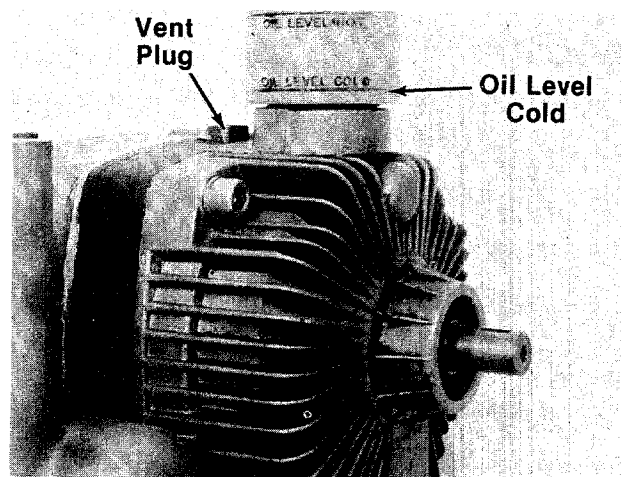

FIGURE 15.
The transmission fluid level should be checked prior to initial use. The level should not be above the COLD mark which is about 1/4" from the bottom of the reservoir/expansion tank. See figure 15.
3. Check the oil level in the reservoir/expansion tank. See figure 15.